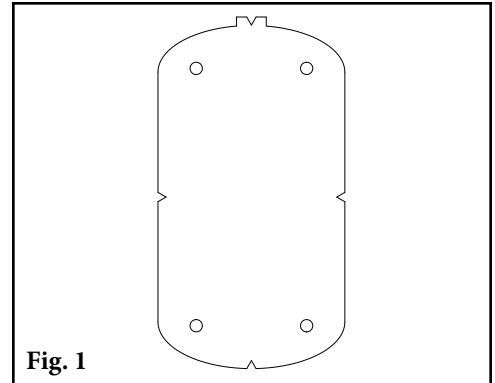

Fig. 1
1. **Using the mounting template, mark and proceed to burn/drill mounting holes.** Mount the Control Box/Tank Combo using the hardware provided (Fig. 1).